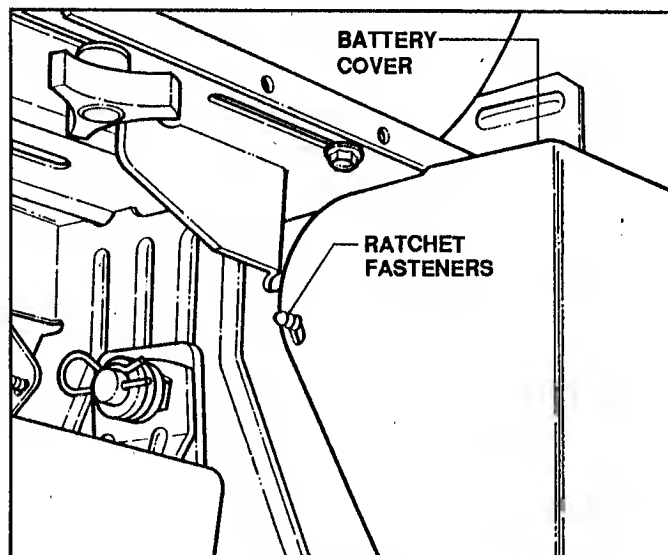

FIGURE 4.25
1. Carefully pull each side of battery cover away from ratchet fasteners and remove cover. See Figure 4.25.
3. Reinstall battery cover. Refer to Figure 4.25.